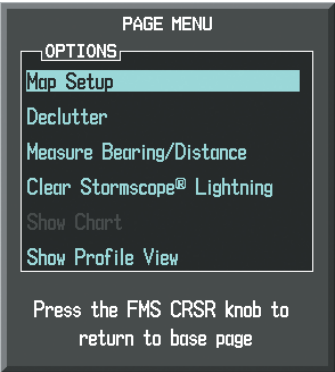

Figure 6-69 Navigation Map Page Menu
- 2) With 'Map Setup' selected (Figure 6-69), press the **ENT** Key.